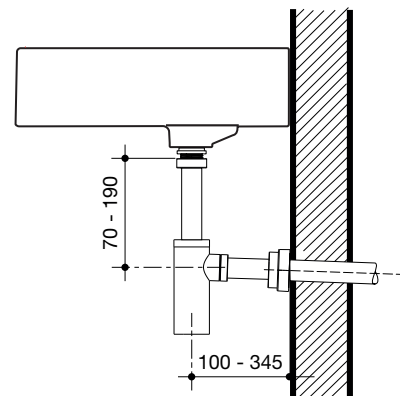

Fig. 4
2. Cut waste pipe **B** to the length **C** minus 45mm. The total range of 100 - 345mm is achievable as detailed in **Fig. 4**.
4. Assemble the bottle trap and fix it to the basin waste. The vertical tube slides down to adjust the length from 190 to 70mm, as detailed in **Fig. 4**.